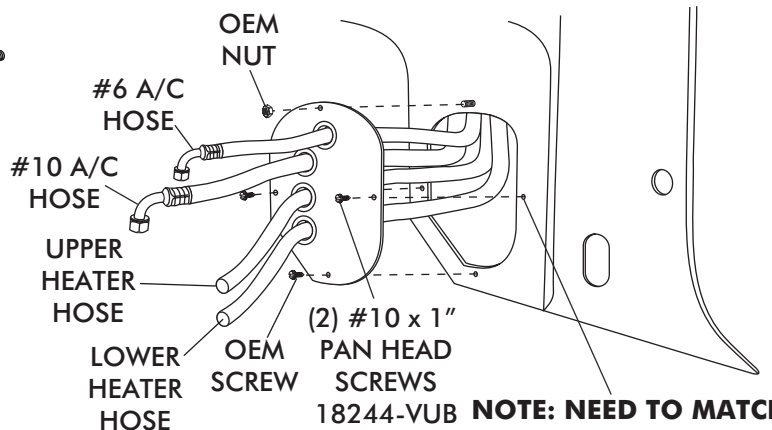

FIGURE 6b
- ☐ INSTALL (4) GROMMETS IN KICK PANEL COVER, SEE FIGURE 6b BELOW.